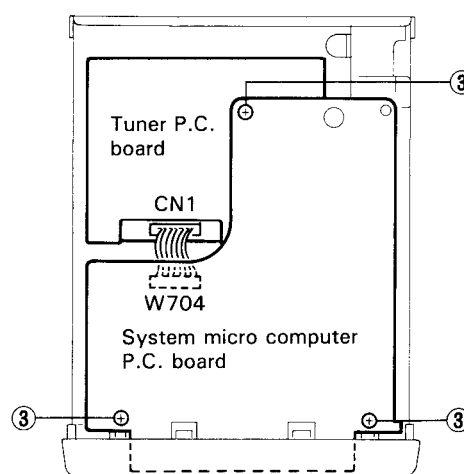

Fig. 7-4
■ Method of removing the system micro-computer P.C board (Refer to Figs. 7-4 ~ 7-6)
1. From right above the body, remove the three screws ③ retaining the system microcomputer P.C. board.